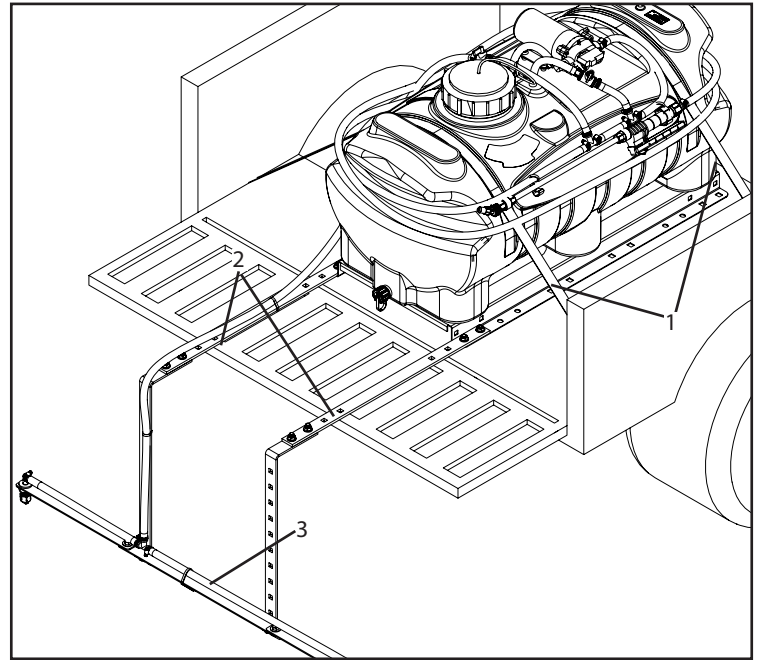

Figure 1: Skid Sprayer Mounting
It is recommended to use straps (1) to secure the sprayer to the utility vehicle's bed, as shown (Figure 1).